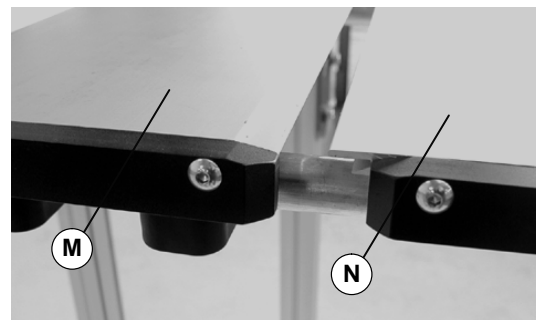
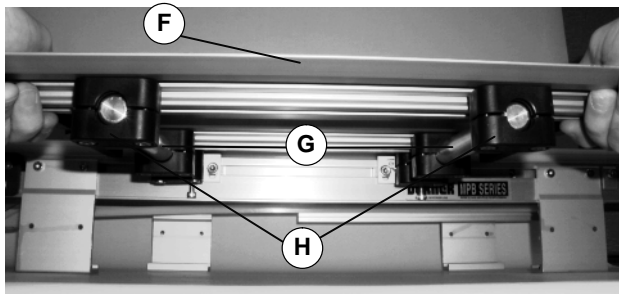

Figure 13
Figure 14
- Orient second table (N of Figure 13) so it will mate with the first table (M). Lift second table (F of Figure 14) and slide clamps (H) on to support bars (G). There is only one additional clamp per support bar.